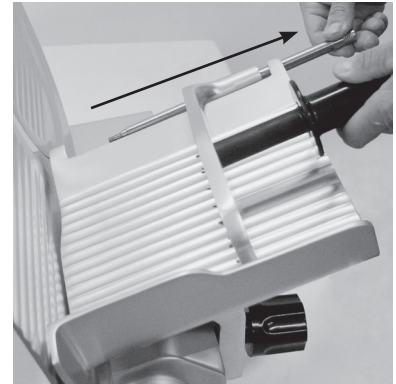

Figure 11-1
2. Turn slice thickness dial clockwise past zero (0) until it stops so the table covers the knife edge.
4. Remove the food chute's end weight. Hold the end weight and unscrew the slide rod (Fig. 11-1). Pull the slide rod out of the pivot of the end weight.